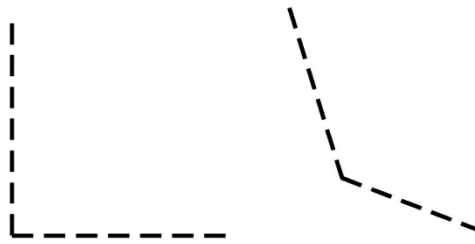

Figure 2.5-2: Hidden lines at corner
- Rule 3. Hidden line dashes should join at corners (see Figure 2.5-2).